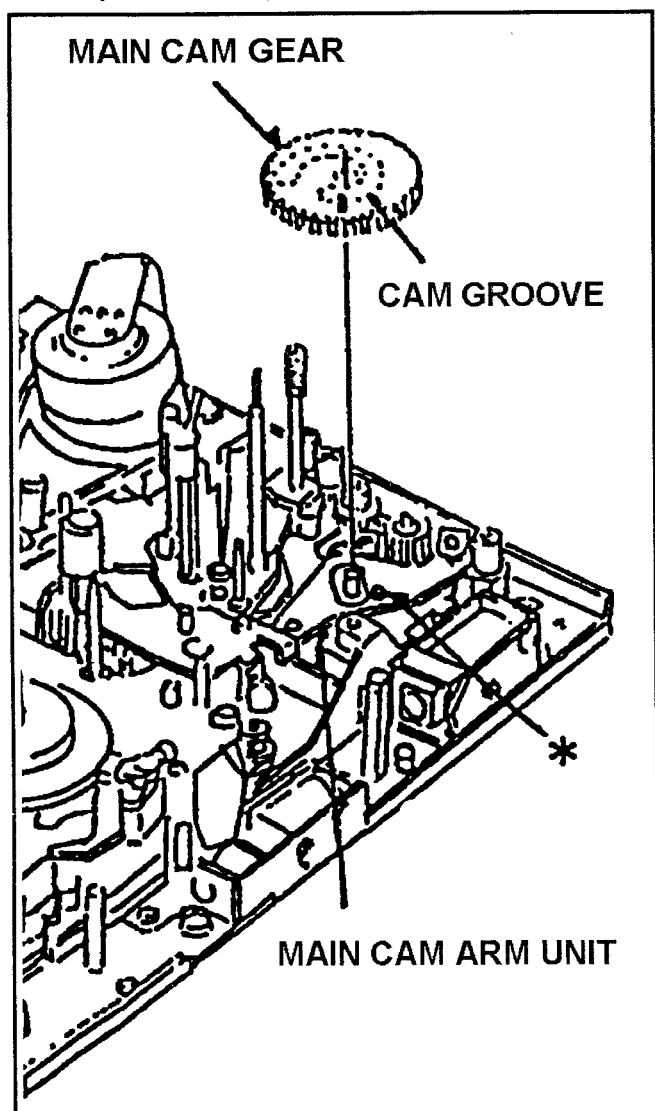

Fig. 6-19-1 Removal of Main Cam Gear
3. Remove the Pinch Solenoid Unit (Refer to item 6-5) and Loading Motor Neutral Unit (Refer to item 6-4).
4. Remove the Main Cam Gear as shown in Figure 6-19-1.
1. Install the Main Cam Gear, then the pin of Main Cam Arm Unit (※) should be matched with the groove position of Main Cam Gear as shown in Figure 6-19-1.
3. After installation, Pinch Solenoid Position Adjustment is required (Refer to item 5-3).